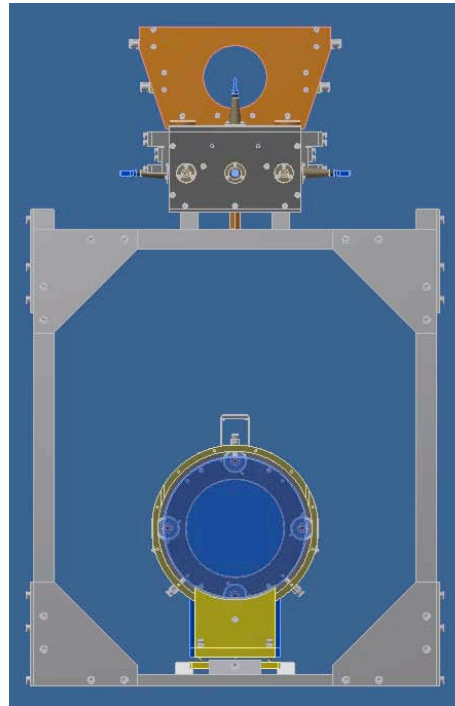

Figure 4, the recoil mass is pushed forward, around the mirror. The wires are cut below the winches, the winch box removed
10. The recoil mass barrel (with OSEMs) is pushed forward and positioned (Figure 4).